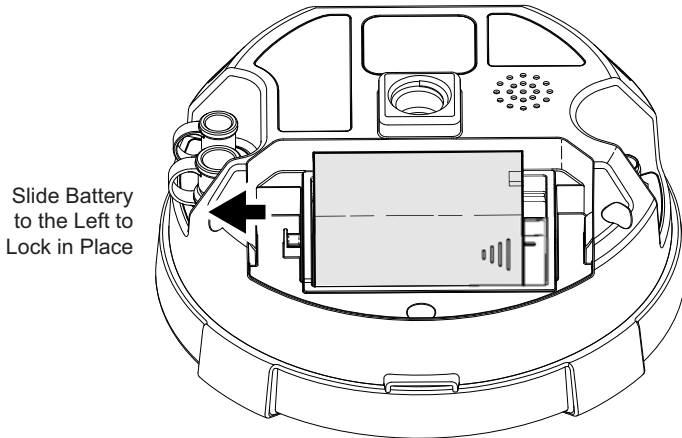

Figure 1-5. Remove Battery Compartment Cover
2. Gently slide the bottom of the battery along the battery guides until it snaps into place (Figure 1-5 on page 1-12).